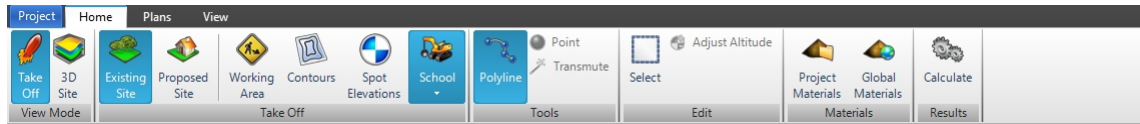

Figure 38. Ready to Take Off Boundaries for the School Structure that will be demolished.
- Select the takeoff you want moved in the **Take Off List** pane by clicking on the name(s) of the takeoff. In Figure 38 two structures are selected to be moved.